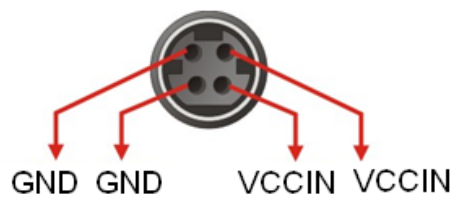

Figure 3-33: 4-pin Power Mini-DIN Connector
- CN Pinouts:** See Figure 3-33